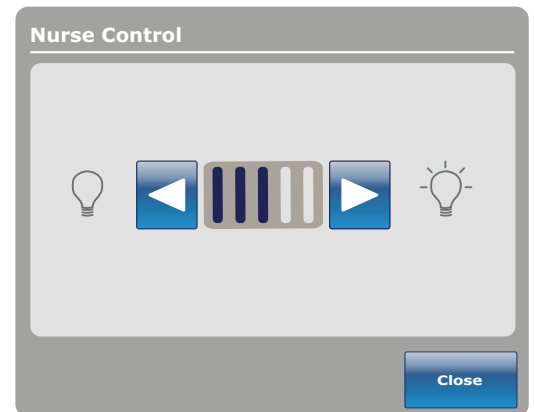

Figure 82 – Nurse control LED intensity
2. Tap the left or right arrow (Figure 82).
3. To save the LED intensity setting, tap **Close** (Figure 82).